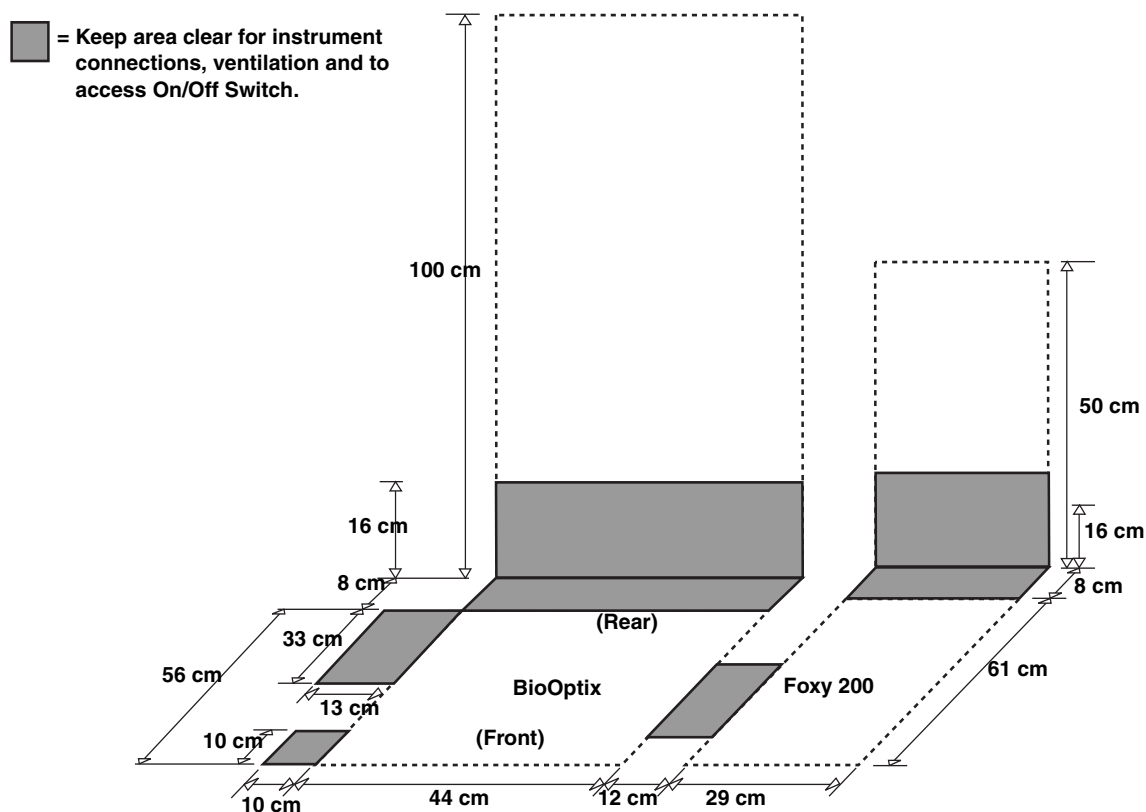

Figure 2-1 System space requirements
The BioOptix 10 unit requires about 3350 square centimeters (520 in2) of bench space. Space requirements are shown in Figure 2-1. Space must be left behind the unit for case ventilation and electrical connections. The left side of the unit should be kept clear to access the power switch and for fluid connections.
The BioOptix 10 may now be positioned on the bench as shown in Figure 2-1.
7. Place the Foxy 200 to the right of the BioOptix 10 (Figure 2-1). Ensure that the full motion of the fraction collector arm is not obstructed, especially near column positions 9 and 10 on the BioOptix 10.